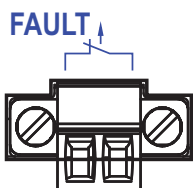

Figure 14: 2-pin terminal block
- ▶ The signal contact (“FAULT”, for pin assignment of terminal block, see fig. 14) monitors the functioning of the device, thus enabling remote diagnostics. You can specify the type of function monitoring in the Management.